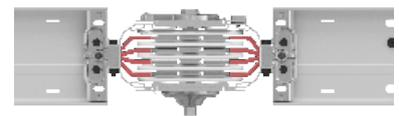

Figure 4
*Note: If the final joint cover does not close correctly, it indicates the busbar is not completely aligned. Release the bolts and reapply the sequence from figure 4 to complete the joint.*